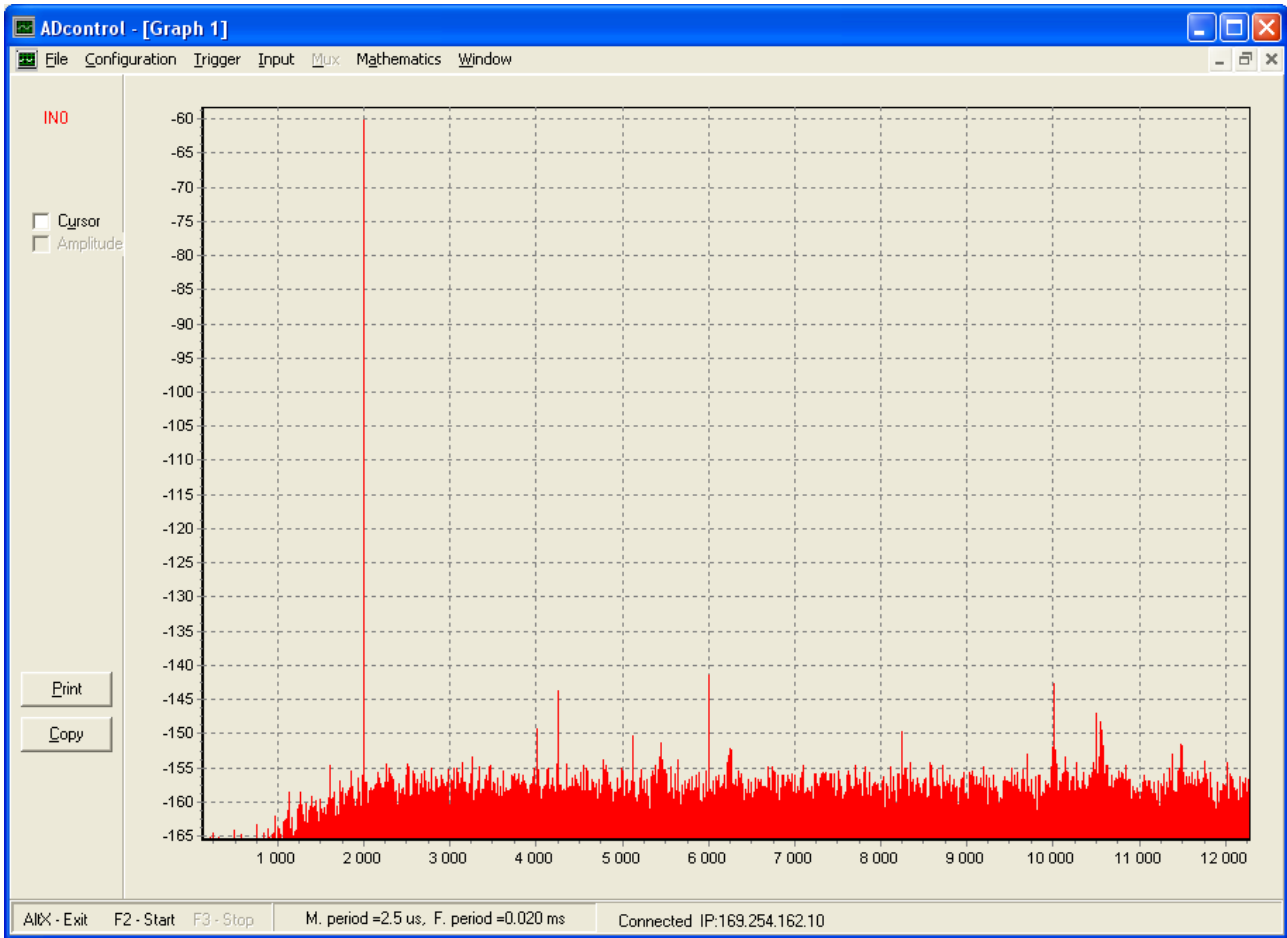

Fig. 4. Noise and distortion of the amplifier
**Figure 4** shows the noise and distortion performance of the amplifier and analyzer together when the attenuator is connected to the output of the oscillator. We used our DAQ module AD14ETH [www.janascard.cz](http://www.janascard.cz) as a spectrum analyzer. The DAQ module has a 14-bit ADC with 400 ksamples/s sample rate. The module averages 8 samples to reduce sampling speed to 50 kS/s and takes 128 ksamples to perform FFT analysis. The high number of samples is necessary for highest possible dynamic range, second harmonic is as low as -150 dBV so frequency resolution below 1 Hz is necessary. Fig. 4 shows that noise floor of the amplifier is -155 dBV. The third harmonic is -141 dBV, so the amplifier's THD together with that of DAQ module is less than 80 dB.